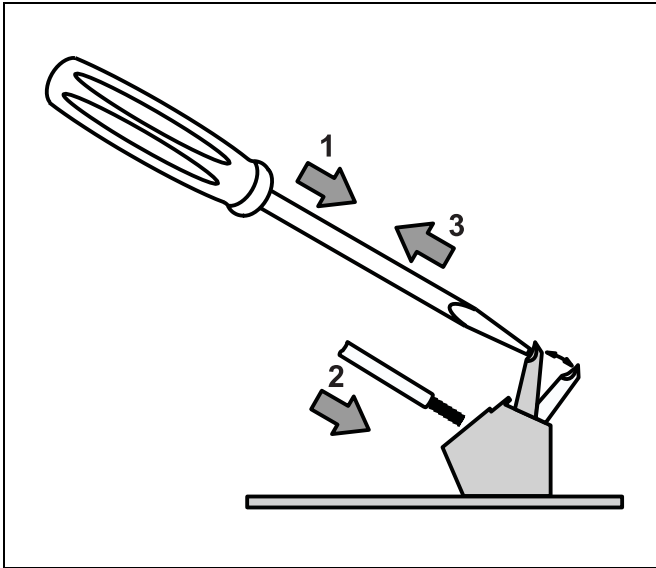

Fig. 35 Cable Insertion in the Screwless Spring Loaded Terminals
Operation: Lead (2), with the insulation stripped, can be inserted into the terminal when spring (1) is depressed. Release the pressure (3) on the spring (Fig. 35).